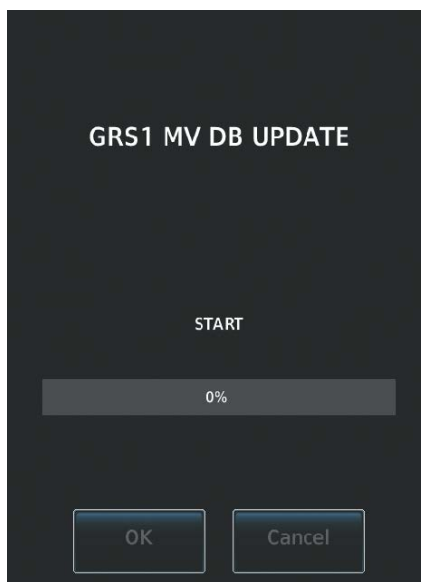

Figure B-15 Uploading Database to GRS1
- 1) With the MV DB prompt displayed, as shown in Figure B-14, touch the **OK** Button. A progress monitor is displayed as shown in Figure B-15.